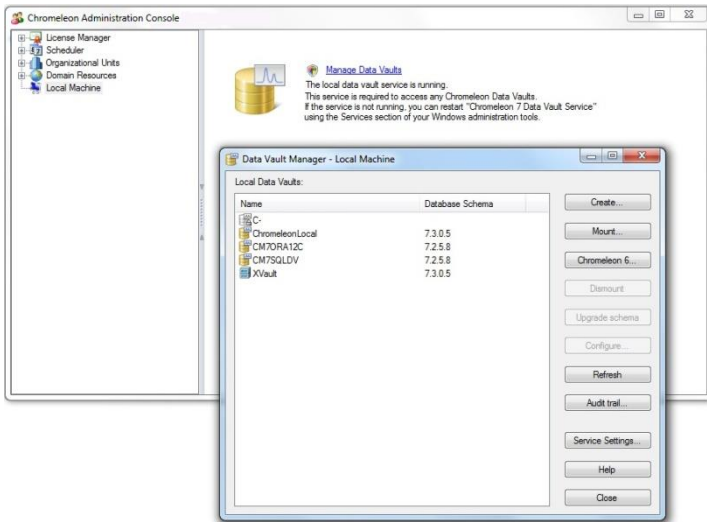

Figure 17: Starting the Data Vault Manager
1. Open the **Administration Console**, click **Local Machine** in the left pane (Figure 17). Click **Manage Data Vaults** in the right pane.
3. The **Data Vault Manager** opens in a separate window (Figure 17).
2. In the **Data Vault Manager** window, click **Create...**, Figure 17